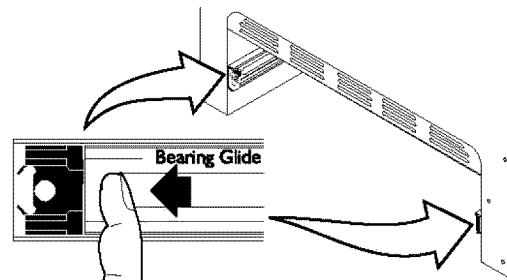

Fig. 3
1. Pull the bearing glides to the front of the outer compartment glide channels until they snap into place -*Fig. 3*.